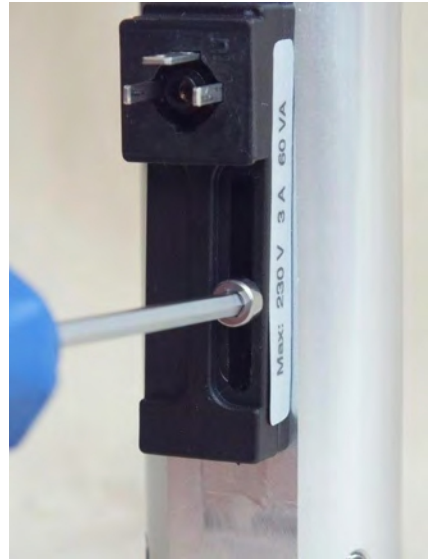

Fig. 31: Loosen fixing screw
2. ➤ Loosen the fixing screw of the switch contact (Fig. 31) using a hex screwdriver.
6. Re-tighten the switch contact fixing screw (Fig. 31) using a hex screwdriver. When doing so, observe the correct tightening torque of the screw.